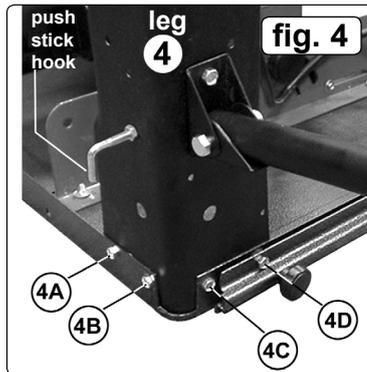

fig. 4
- 4.4** Attach leg 4 as shown in fig.4. Use 3 sets of fixings at positions 4A, 4B & 4C at this stage.